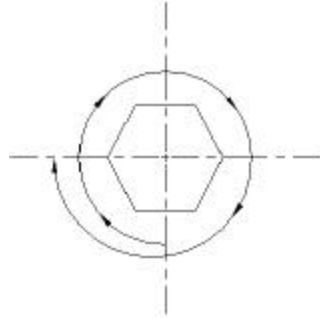

Figure 4.4-3 Tightening Nut 1 1/4 Turns
A. For tubing OD \geq 1/4 inch: Tighten nut 1-1/4 turns (as shown in Figure 4.4-3 below left) to swage ferrule. (Nut mark should be at 9 o'clock position).
- For tubing OD \geq 1/4 inch: 9 o'clock position (refer to Figure 4.4-3)